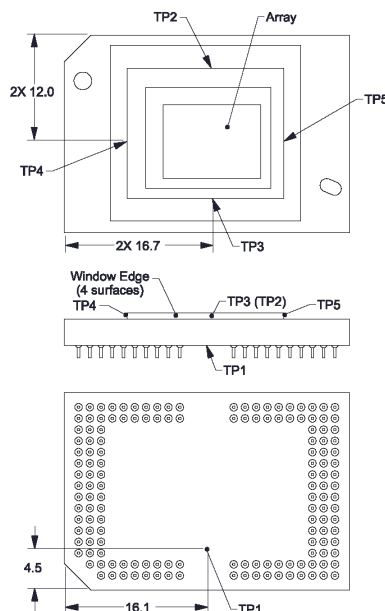

Figure 15. Thermal Test Point Location
Achieving optimal DMD performance requires proper management of the maximum DMD case temperature, the maximum temperature of any individual micromirror in the active array, the maximum temperature of the window aperture, and the temperature gradient between case temperature and the predicted micromirror array temperature. (see Figure 15).
The DMD is designed to conduct absorbed and dissipated heat to the back of the Series 450 package where it can be removed by an appropriate heat sink. The heat sink and cooling system must be capable of maintaining the package within the specified operational temperatures, refer to Figure 15. The total heat load on the DMD is typically driven by the incident light absorbed by the active area; although other contributions include light energy absorbed by the window aperture and electrical power dissipation of the array.
The temperature of the DMD case can be measured directly. For consistency, Thermal Test Point locations TP1 - TP5 are defined, as shown in Figure 15.
Micromirror array temperature cannot be measured directly; therefore it must be computed analytically from measurement points (Figure 15), the package thermal resistance, the electrical power, and the illumination heat load. The relationship between micromirror array temperature and the case temperature are provided by Equation 1 and Equation 2:
- T_{Ceramic} = Ceramic temperature (°C) (TC2 Location Figure 15)
- Q_{ILL} = Absorbed illumination energy (Watts) (2)